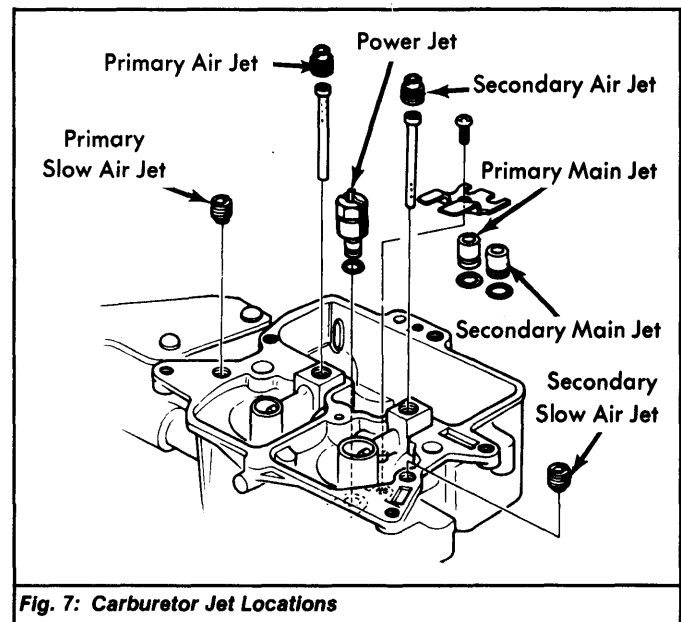

Fig. 7: Carburetor Jet Locations
3) Disconnect emulsion tubes. Remove primary and secondary slow air jets. See Fig. 7. Take off clip plate. Remove main jets and valve seat. Remove throttle opener by pulling out link plate cotter pin.